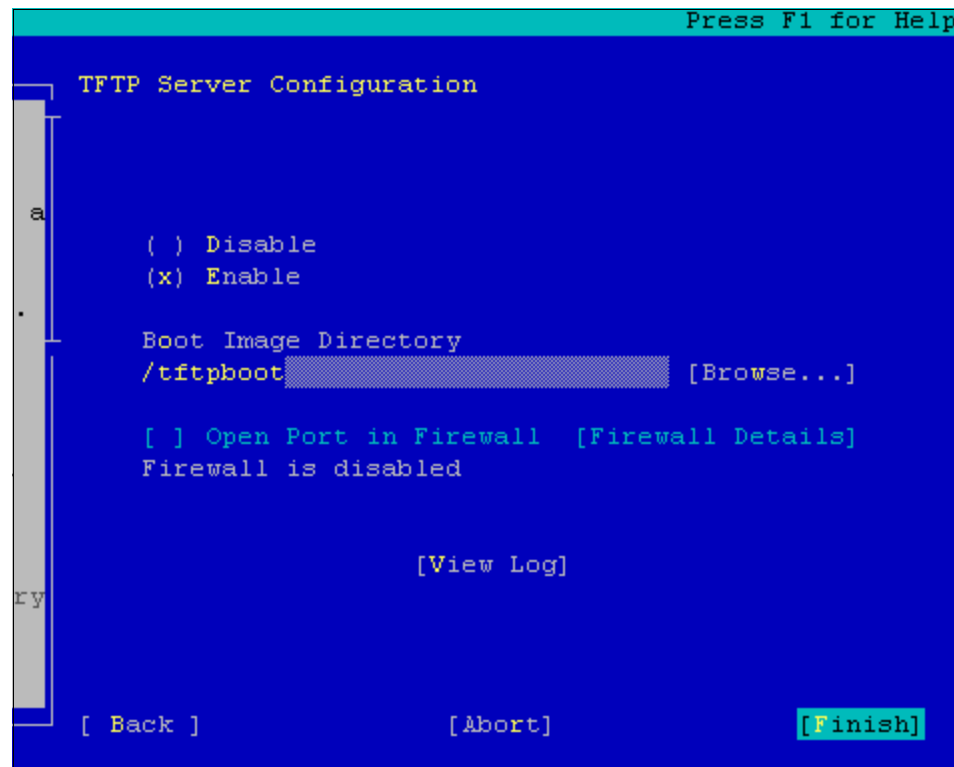

Figure C-1 Configure a TFTP server in SLES11
4. In the new window, select **Enable** and create `/tftpboot` in the Boot Image Directory section as shown in Figure C-1.